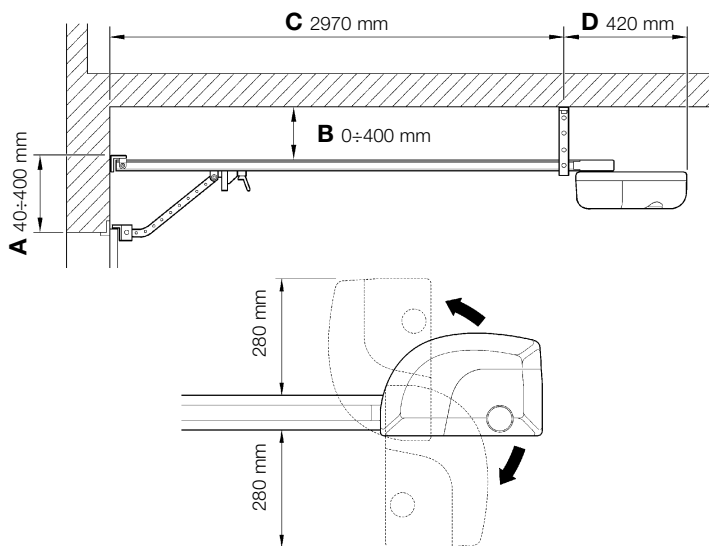

Figure 8
- Make sure that the minimum and maximum clearances specified in fig. 8 are observed.